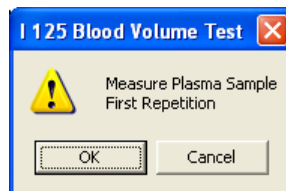

Figure 10-44
7. The screen appears as shown in Figure 10-44, prompting measurement of the patient plasma sample.